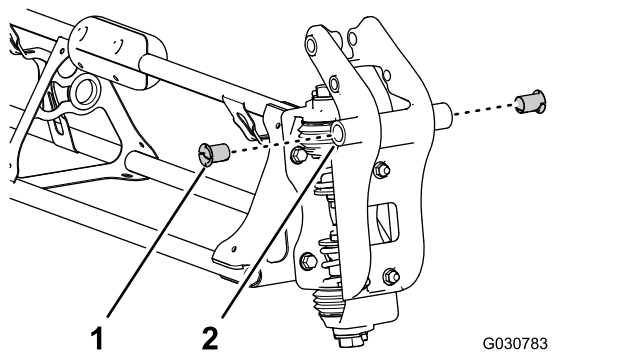

Figure 120
2. Insert a nylon-flange bushings into the 31.8 mm (1-1/4 inches) hole in each side of the pivot fitting (Figure 120).